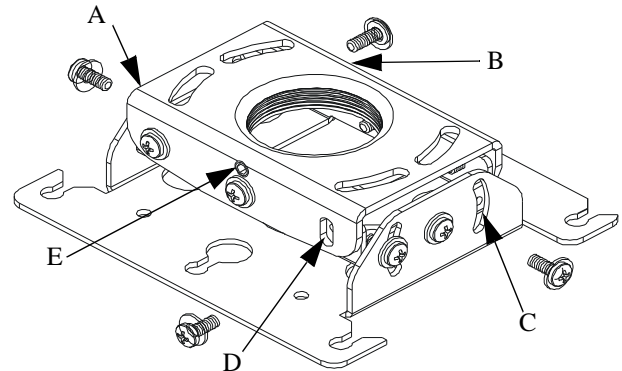

Figure 9. Remove and Replace Screws and Set Screw
1. Remove four screws (A thru D) (see Figure 9).